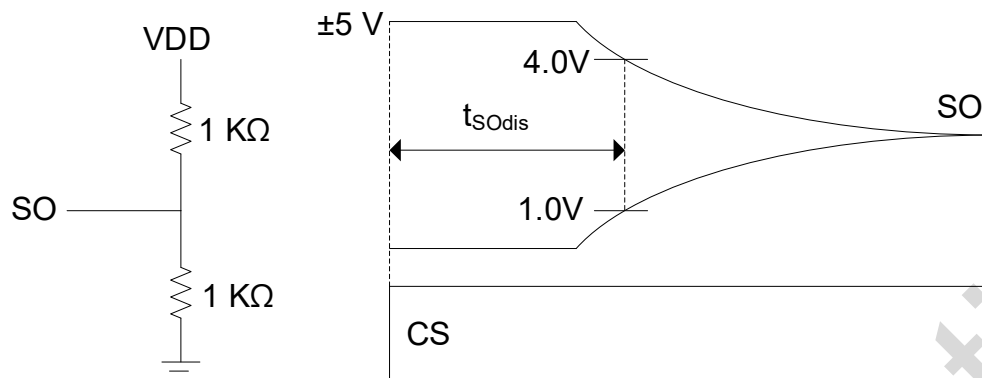

Figure 3-12 SO loading for disable time measurement
1. See Figure 3-12
SPI is a standard four wires interface that communicates with a data word of 24 bits. By means of SPI all the channels can be driven in serial way and diagnosis is sent out. Timing of SPI's operations are reported in Figure 3-12. The input data (DIN) is read on the rising edge of the SPI's clock (SCLK), in the same way the output data (DOUT) must be read by the Microcontroller on the SCLK's rising edge.